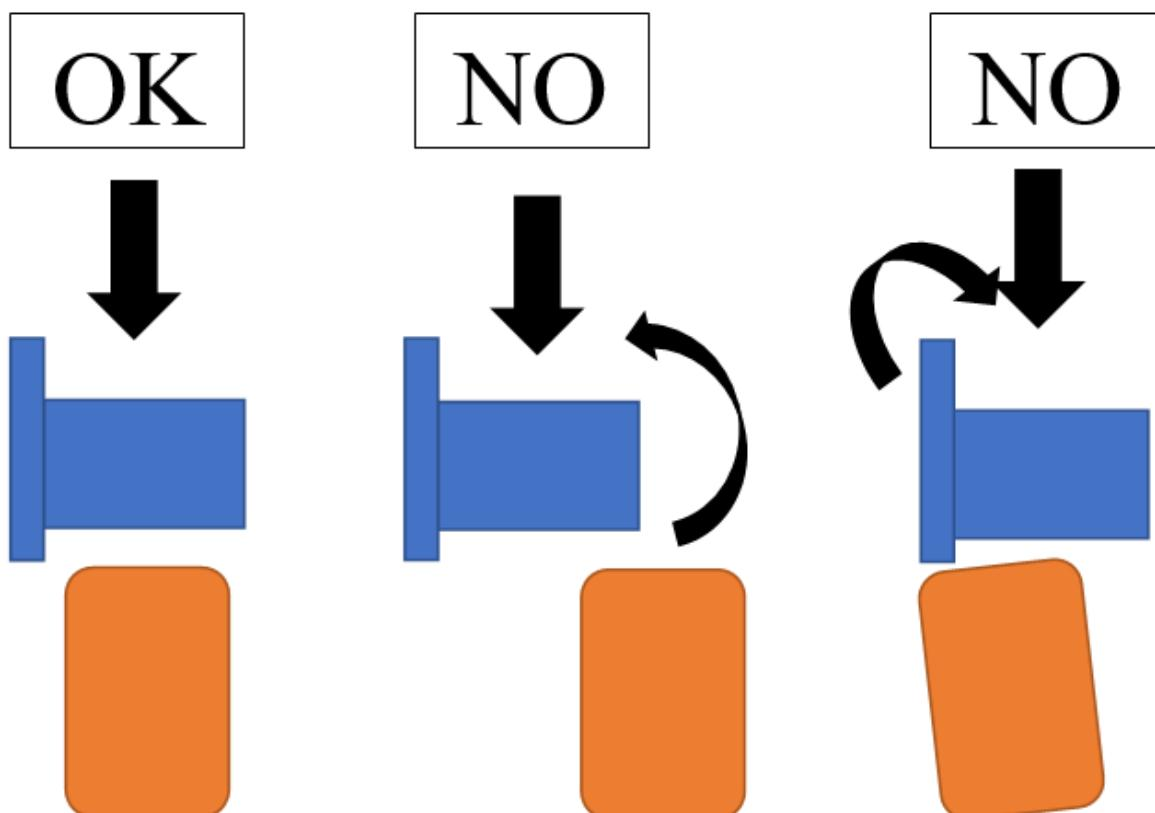

Fig. 11b
a) Place the log vertically and sitting flat onto the support table. Be sure the wedge and support table will contact the log squarely on the ends. Never attempt to split a log at an angle (Fig. 11b).